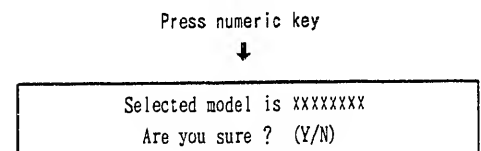

Fig. 2-7
- 5) Press [Y] key. (Fig. 2-7)